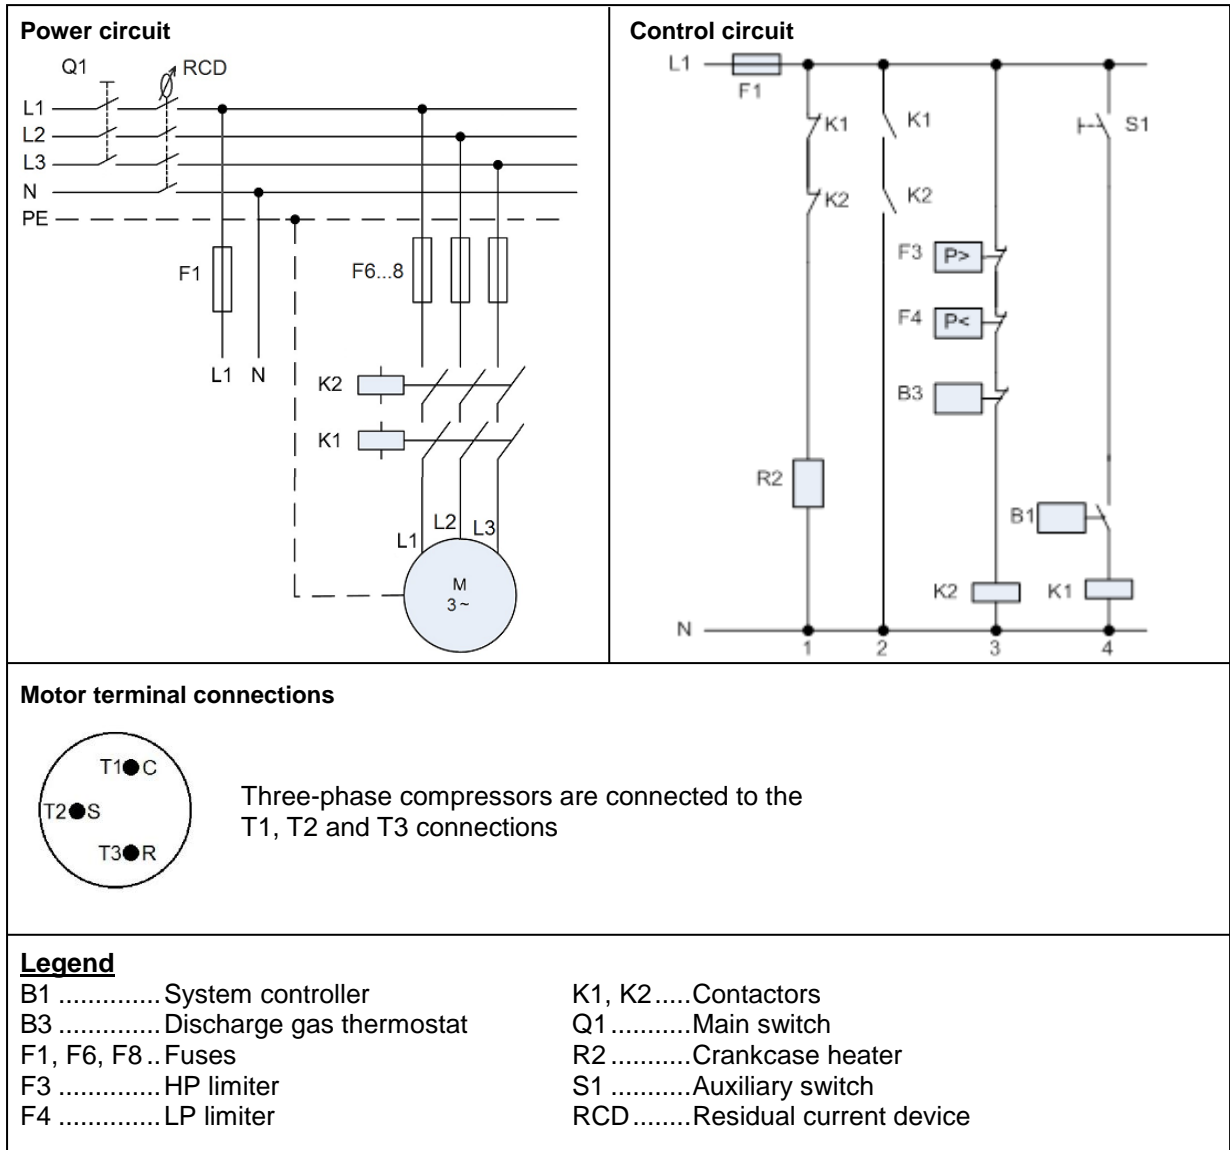

Figure 7
**NOTE:** It is mandatory to install a residual current device (RCD) in any electrical system associated with ZB\*KCU compressors (see Figure 7).